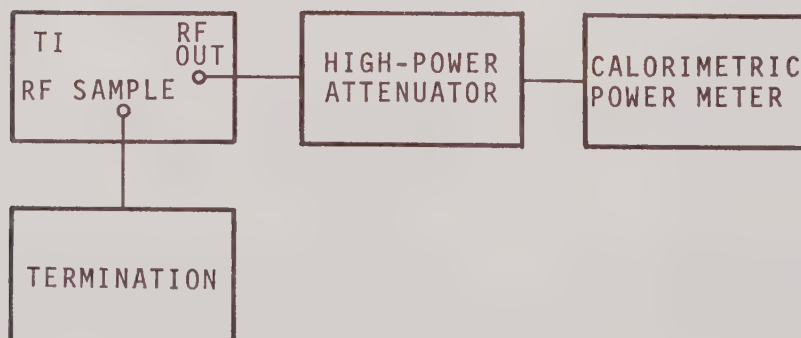

FIGURE 6-1. OUTPUT POWER TEST CONFIGURATION
a. Ensure that all power switches are off, then connect the applicable equipment as shown in Figure 6-1.